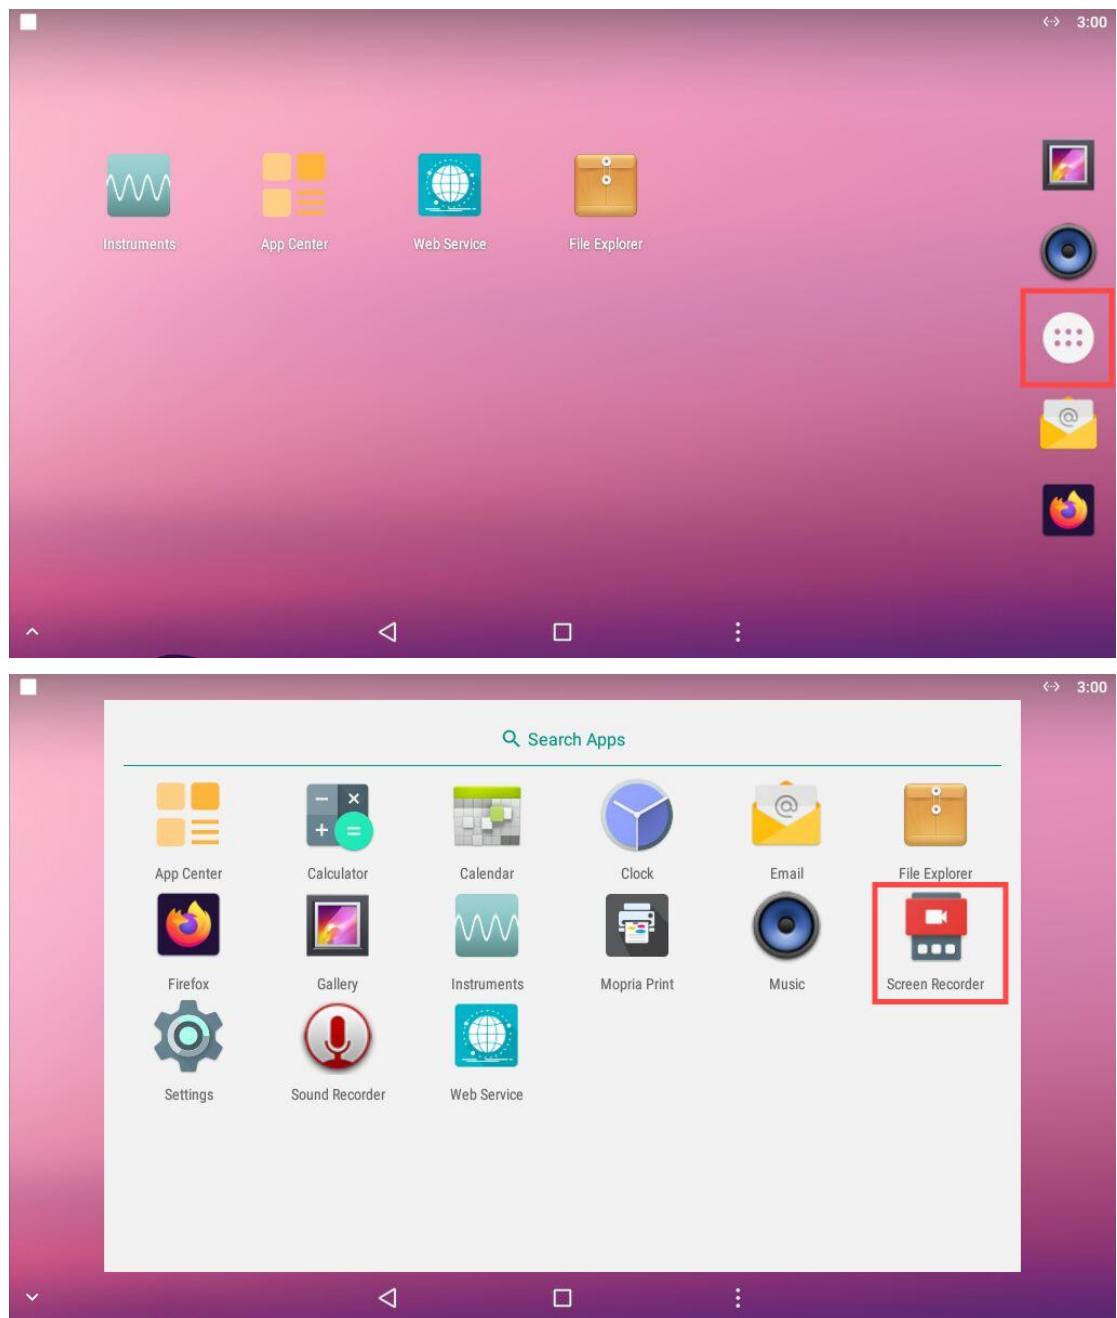

Figure 5-1
1. Click "**App Drawer**" to enter System built-in application list to find "**Screen Recorder**" App as shown in Figure 5-1, or drop down the status bar click "" can start recorder, as shown in Figure 5-2.